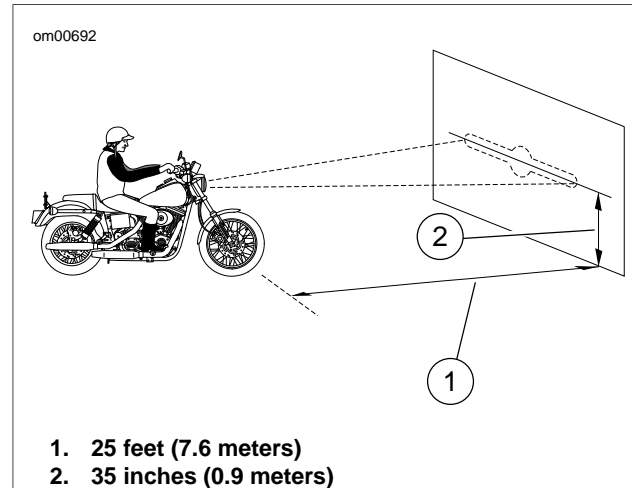

Figure 1-46. Checking Headlamp Alignment: Dyna Models
3. See Figure 1-46. Position motorcycle 25 ft (7.6 m) away from a screen or wall. Measure the distance from directly below the front axle to the base of the screen/wall.